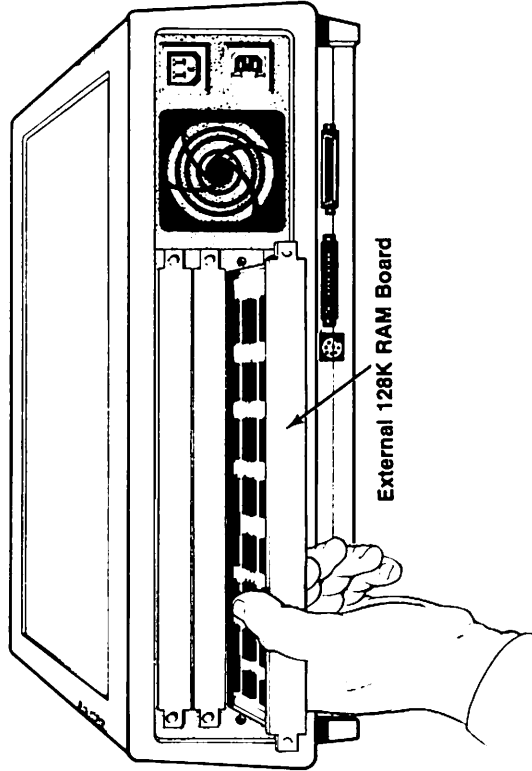

Figure 5
6. Unlock the buttons on the External 128K Board's panel. (Note: Handle the pan containing the board, **not** the board itself.) Slowly slide the pan between the guides along the sides of the card slot until the board meets the connector. (See Figure 5.)